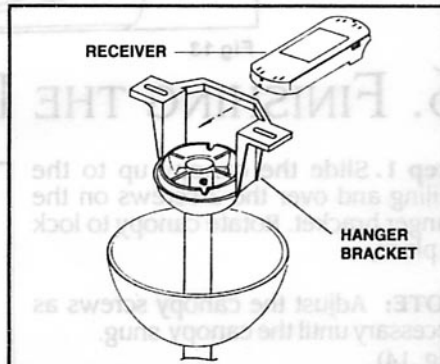

FIG. 12
Step 1. (Fig. 12) Insert the receiver unit into the hanger bracket with the flat side of the receiver facing the ceiling.